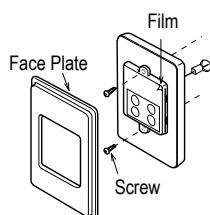

Fig.4
5. Fix the controller to the wall using appropriate fittings as shown (Fig. 4).
6. Remove protective plastic from the controller face as shown (Fig. 4) and replace the face plate.